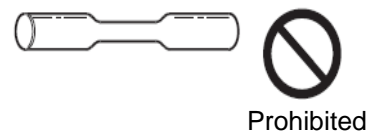

Figure 5 Duct layout
- Use elbow as less as possible in the pipeline, and design the bending part of the elbow in an arc shape (90° right angle bending should be avoided). See Figure 5.
(1) Excessive bending;
(2) Multi-bending
(3) Reduce the connecting pipe diameter